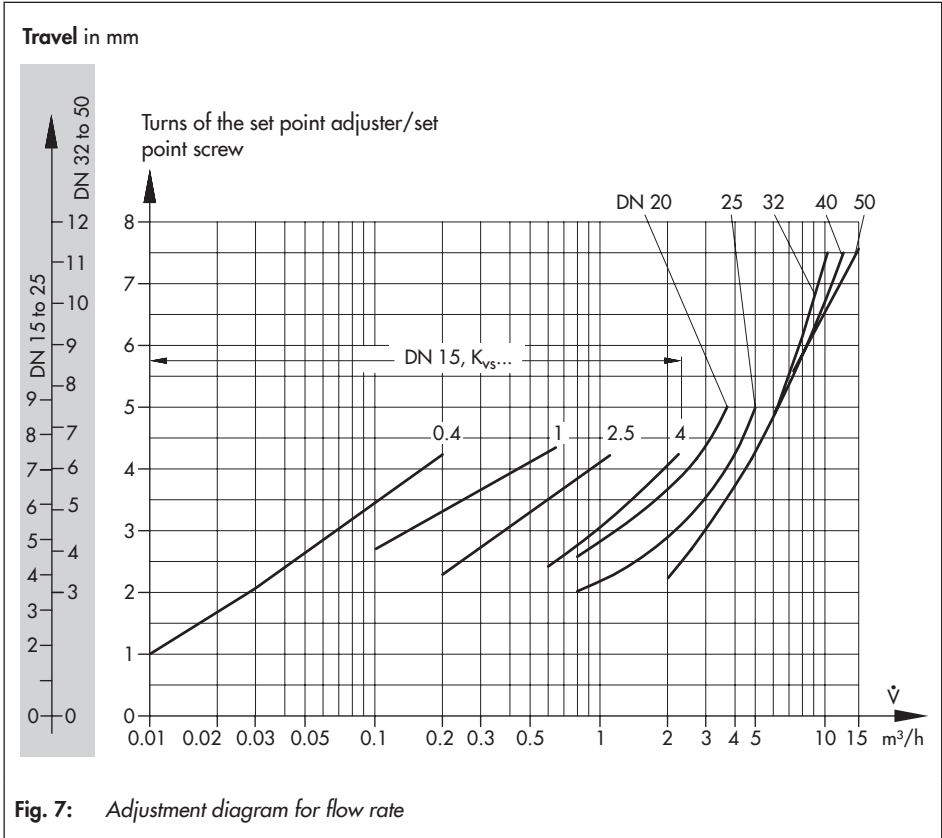

Fig. 7: Adjustment diagram for flow rate
- Refer to Fig. 7 to find out how many turns or which valve travel is required to set the required flow rate. For nominal size DN 15, the adjustment curve that corresponds with the flow coefficient K_{VS} indicated on the nameplate must be selected.
- Reconnect the power supply to the electric actuator (16).
The flow rate indicated in the diagram (Fig. 7) is reduced by approximately 20 % for nominal sizes DN 32 to 50 which are combined with Types 5821 and 5822 Electric Actuators (discontinued).